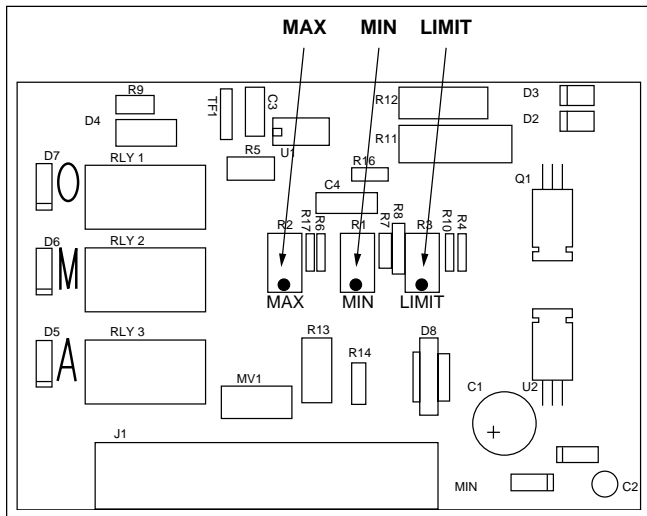

Figure 14
If the auger speed is not within this range, the speed can be adjusted on the conveyor circuit card found in the main electrical junction box on the tractor (Figure 14). The circuit card has three speed adjustments; MAX, MIN and LIMIT. The MIN adjustment is not used with the Gen-III systems. Rotate the MAX adjustment clockwise to increase the auger speed and counterclockwise to decrease the auger speed. If the desired auger speed cannot be reached, rotate the LIMIT adjustment clockwise to increase the upper auger speed limit and continue adjusting the MAX speed adjustment to change the auger speed.
**Manual Override:** Signal from the proportional speed module mounted in main electrical junction box triggered by a relay which is energized by the Override switch(es). Fixed output is adjustable via Max and/or Limit pots on conveyor circuit card (Figure 14).